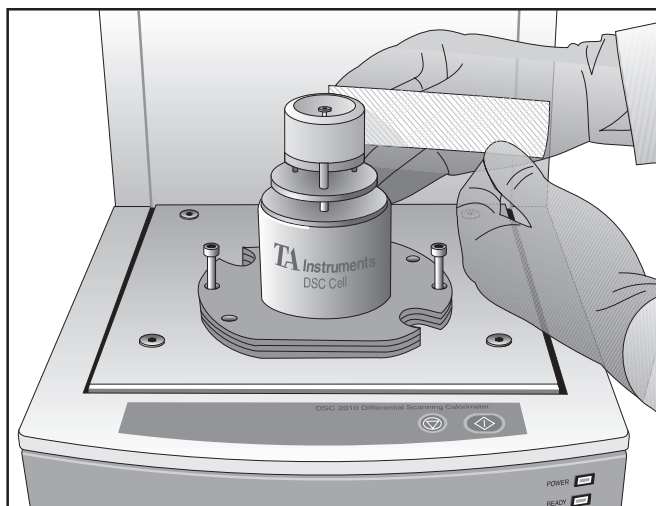

Figure 2.5
- a. Position the insulation beginning at the back of the cell sleeve and allowing 3.2 mm (1/8 inch) to extend above the top of the cell (see Figure 2.5).